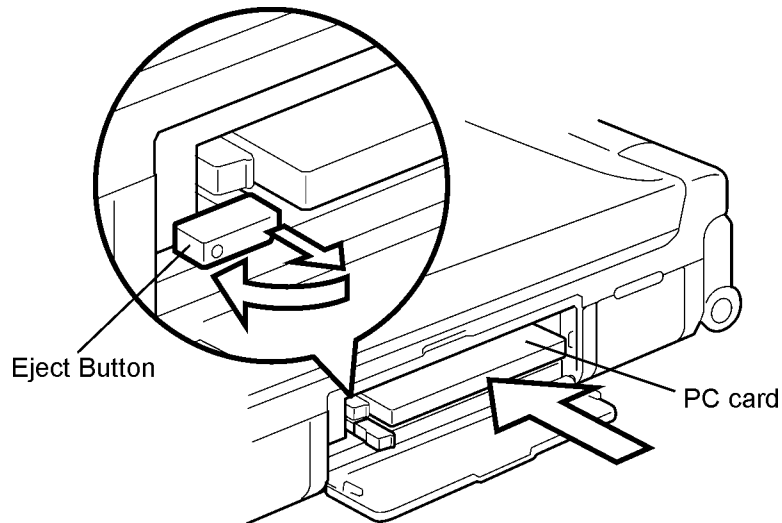

Figure 4-8 Installing the PC card
To install the PC card in the computer, follow the steps below and refer to Figure 4-8:
1. Insert the **PC card** as shown in Figure 4-8. When the card is almost fully seated, you will feel some resistance. Press gently to assure a firm connection, but do not force the card into position.